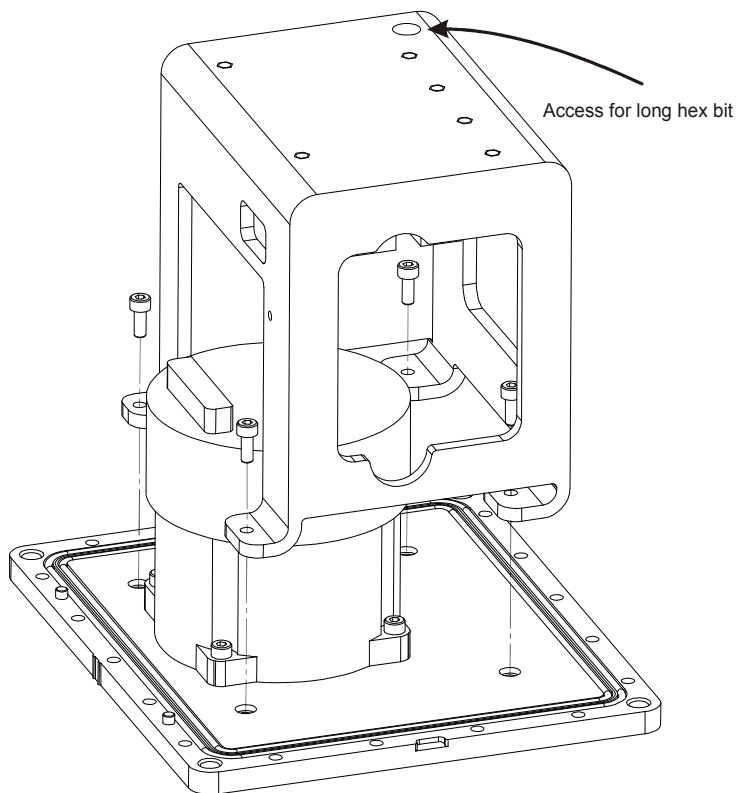

Figure 69: Install Bracket to Base
2. Using a long 3 mm hex bit, install the IMU bracket/SDLC to the base, as shown in *Figure 69*. Use thread-locking fluid on each M4 screw.